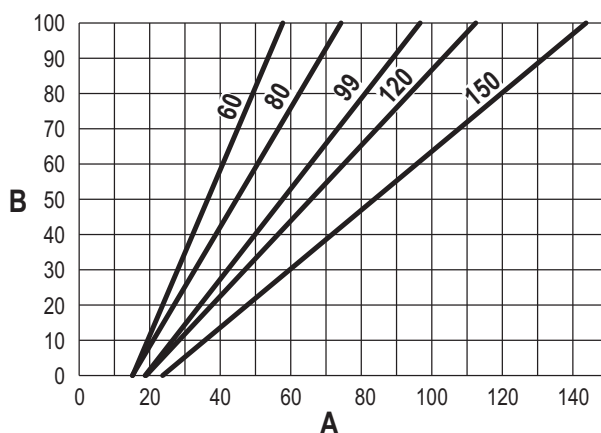

fig. 60
- Press the **contextual buttons 1 and 2** to increase or decrease the heating capacity (minimum = 00 - maximum = 100). See the diagram "Heating Capacity Adjustment" (fig. 60).